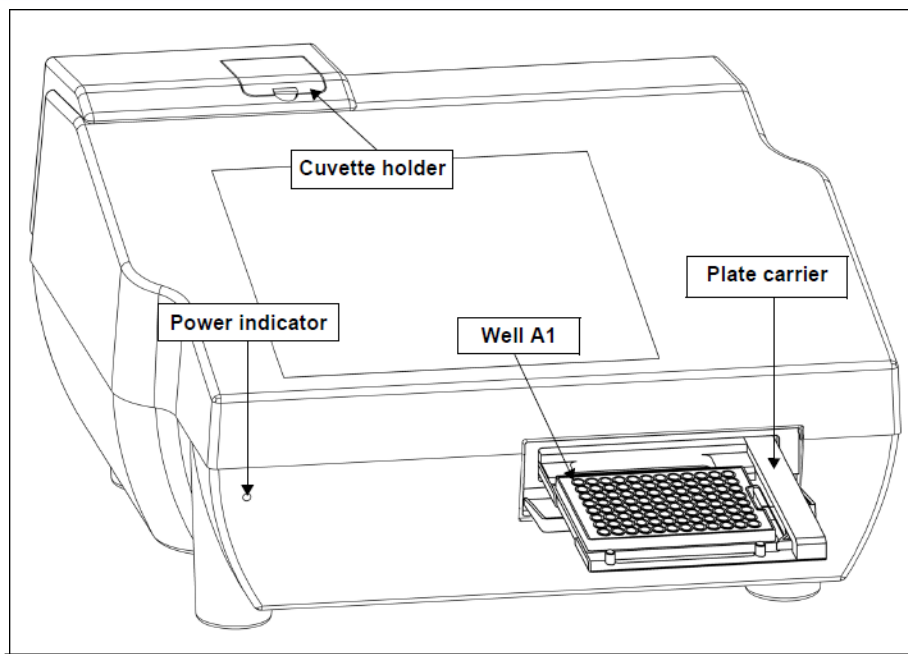

Figure 1-4. Zenyth 200rt with plate carrier open
4. After turning on the power switch at the rear of the instrument, a power indicator on the front panel indicates the current status of the instrument (Figure 1-4):
2. Place the microplate on the plate carrier with well A1 oriented so that it is in the back left corner of the plate carrier (Figure 1-4).
Cuvettes to be read are loaded manually into the cuvette holder near the back left corner of the instrument (Figure 1-4). When performing measurements, cuvettes are not loaded into the instrument until the lamp output has stabilized. During measurements, the ADAP Software displays a visual prompt onscreen when the cuvette should be inserted in the holder.
1. Open the door to the cuvette holder by hand (Figure 1-4).